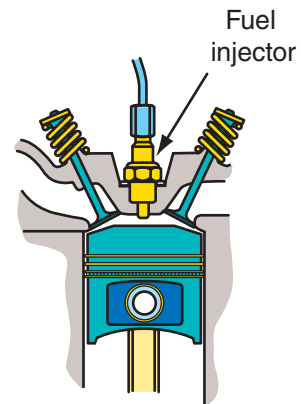
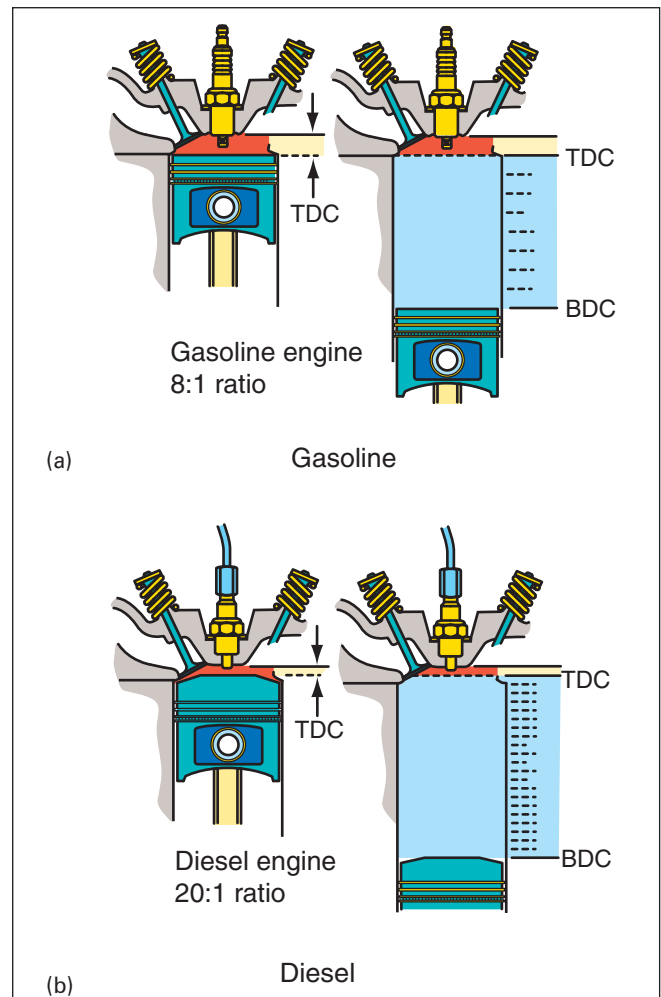

FIGURE 1.37 A diesel engine has a timed, high-pressure fuel injector to control the point of ignition.
FIGURE 1.38 Comparison of gasoline and diesel engine compression ratios.
A diesel is a compression ignition (CI) engine. It does not use a spark to ignite the fuel. Diesel engines use fuel injectors (**FIGURE 1.37**). When air is compressed in the cylinder and high-pressure fuel is injected into it, the fuel ignites. Whereas gasoline engine compression ratios most often range between 8:1 and 10:1, diesel compression ratios range from 15:1 to 22:1 (**FIGURE 1.38**). When air is compressed, it heats up. In a diesel engine the temperature of the